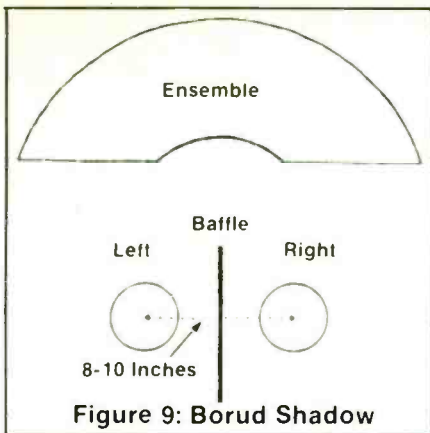

Figure 9: Borud Shadow
3. Borud Shadow (Figure 9) uses two omnidirectional microphones separated by a baffle covered with Sonex acoustic foam. A variation on the Madsen Shadow technique designed by Russell Borud, it tends to produce a fairly wide sound image.